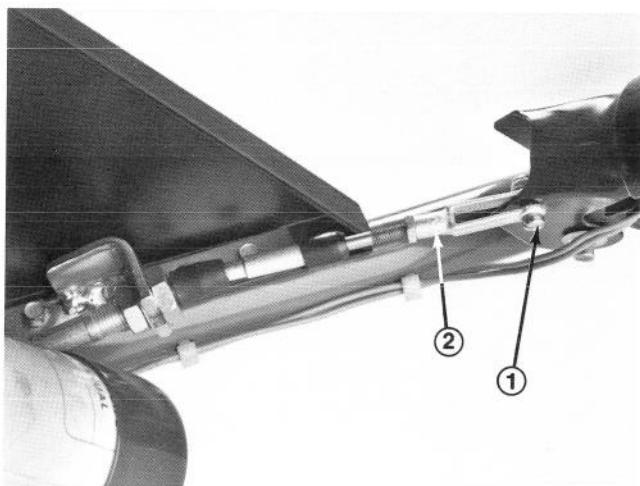

Figure 44
1. Remove screw and nut securing cable clevis to brake lever (Fig. 44).